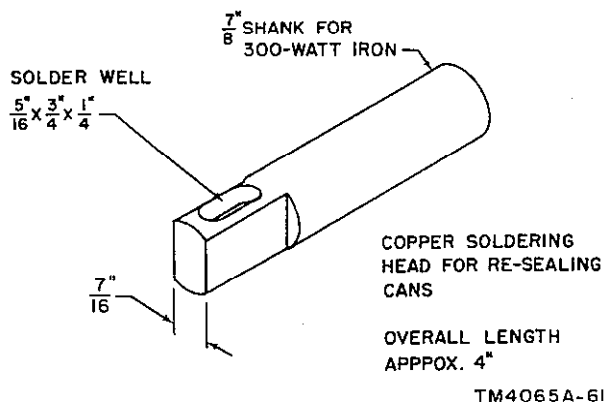

Figure 48. Soldering iron tips.
- b.* One 100-watt and one 200-watt soldering irons, with specially prepared tips (fig. 48) for unsealing the can.
- c.* A 300-watt soldering iron with specially prepared tip (fig. 48) for resealing the can.
b. Anchor the 100-watt soldering iron with the special semicircular soldering tip (fig. 48), so that the iron will not move. Hold the 200-watt soldering iron in one hand, and clamp the circular base on the unit between the two semicircular soldering tips. Press the soldering iron so that the unit is held securely in the vertical position with its base facing upward. The assembly is held secure by the base rim and not by the shell of the can. Hold the cover of the can with one hand while holding the iron with the other hand.